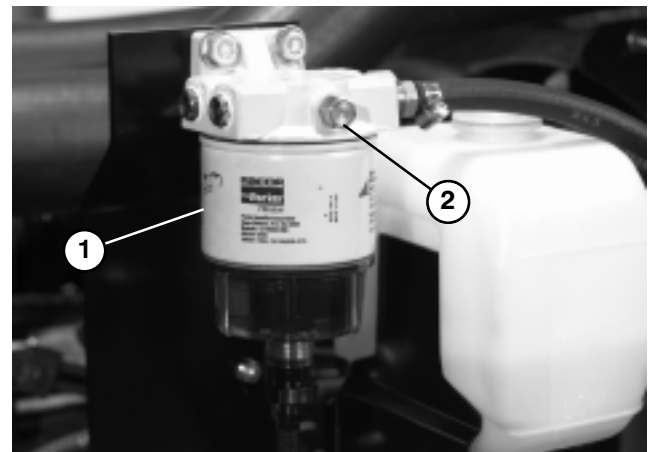

Figure 25
3. Open vent plug on the fuel filter/water separator (Fig. 25).